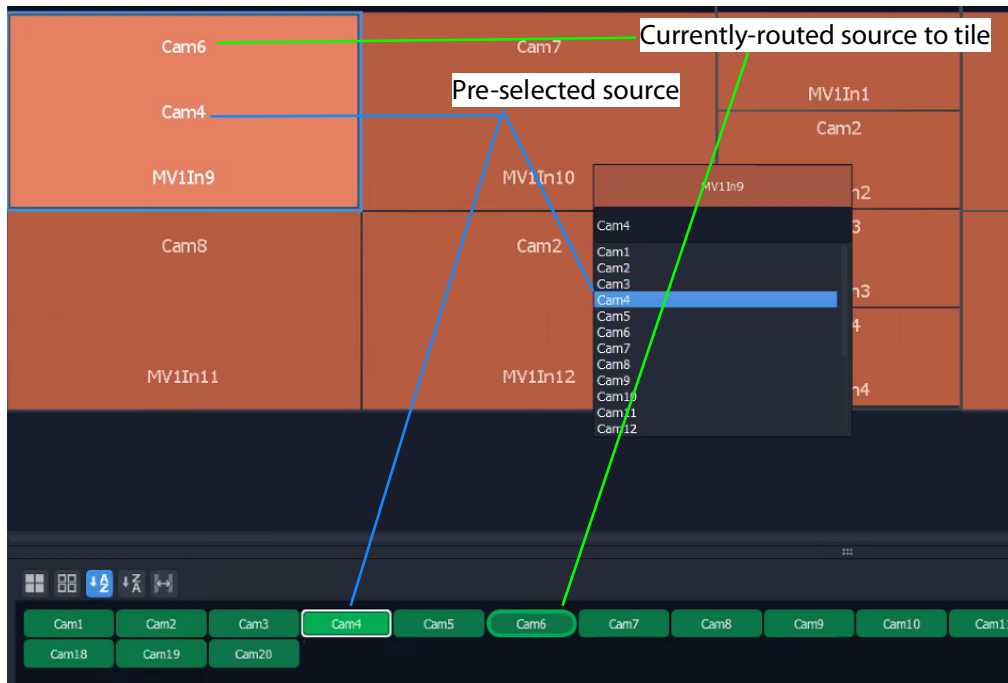

Fig. 8-86: Select Source
- 3 To pre-select a source to be routed and make the route (see Figure 8-86), either: